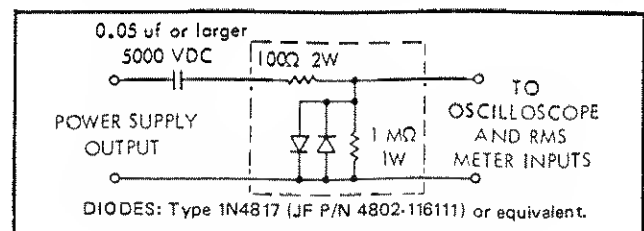

Figure 4-2. PROTECTION CIRCUIT
- b. Connect the 5,000 volt blocking capacitor and the protection circuit shown in Figure 4-2 between the OUTPUT connector and the inputs to the Model 931B RMS voltmeter and the oscilloscope. This circuit protects the input circuitry of the oscilloscope and the voltmeter from a 3000 volt charge on the blocking capacitor if the Model 415B output is accidentally shorted.